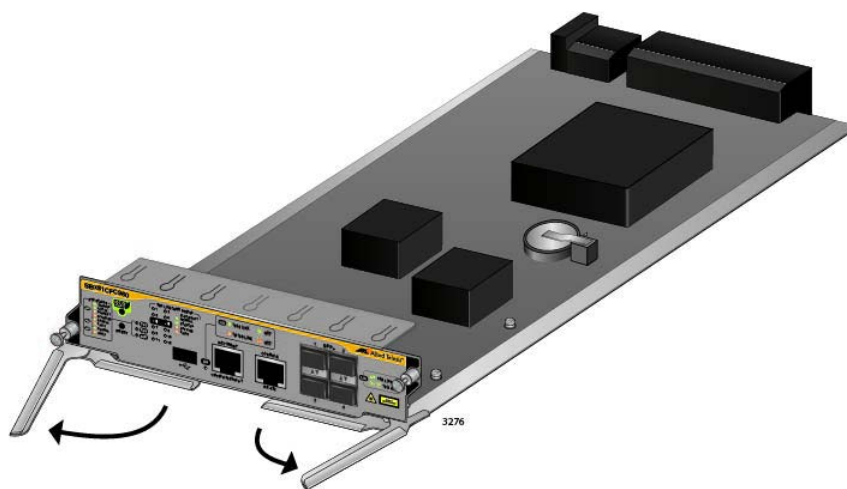

Figure 64. Opening the Locking Handles on the AT-SBx81CFC960 Controller Fabric Card
5. Move the locking handles on the front panel to the open position, as shown in Figure 64.